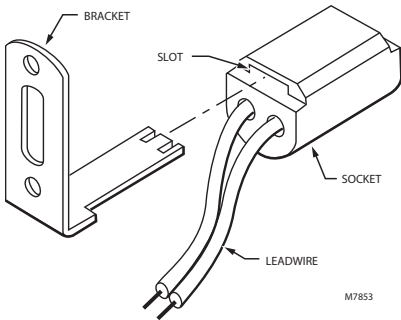

Fig. 3. Insert mounting bracket into socket slot.
3. Insert the mounting bracket into the socket slot (Fig. 3) as far as it will go.
3. Insert the mounting bracket into the slot on the socket (Fig. 3) as far as it will go.